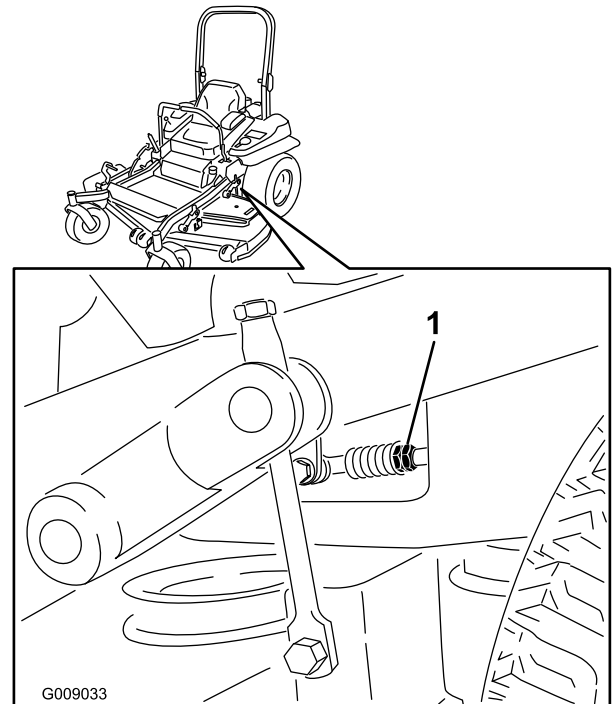

Figure 85
7. Bring the motion control levers into the neutral position. Adjust pump control rod lengths by rotating the double nuts on the rod in the appropriate direction until the wheels slightly creep in reverse (Figure 85). Move the motion control levers to the reverse position and while applying slight pressure to the lever allow the reverse indicator springs to bring the levers back to neutral. The wheels must stop turning or slightly creep in reverse.